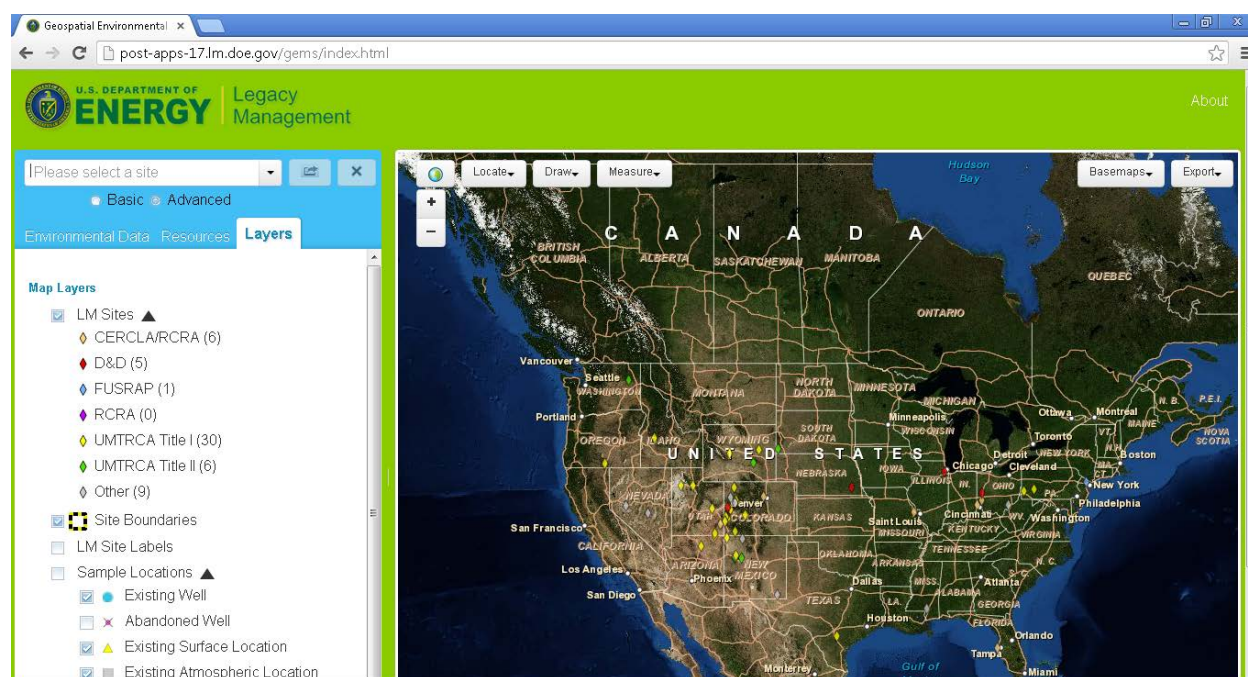
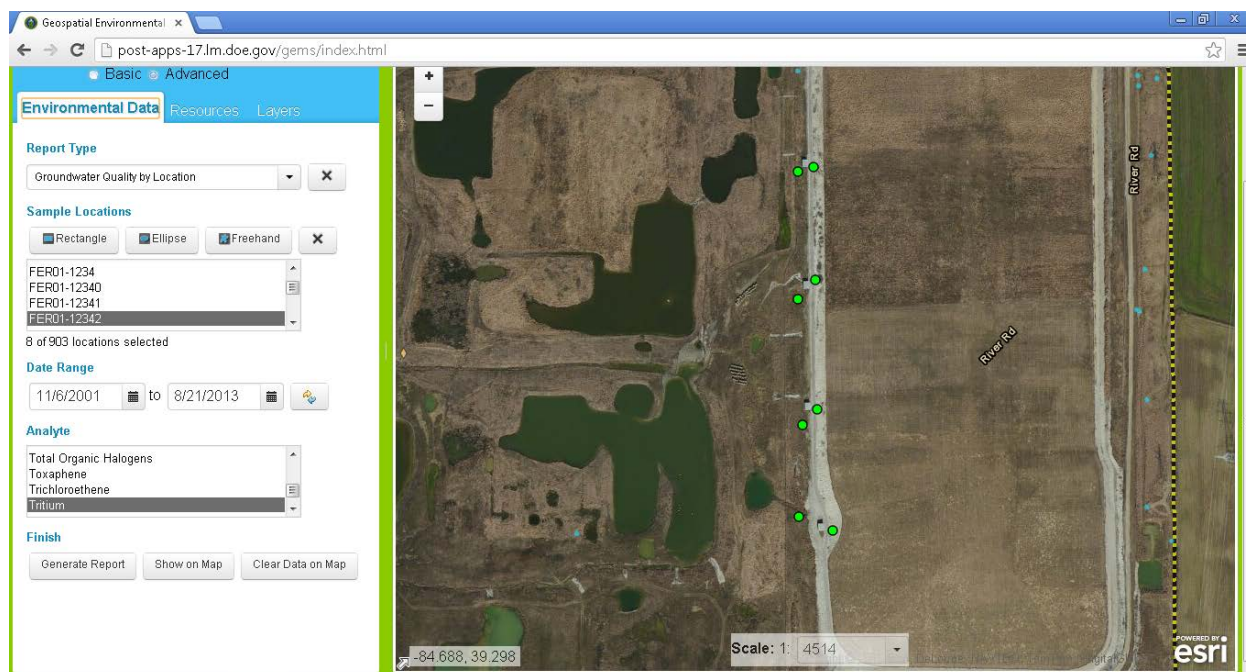
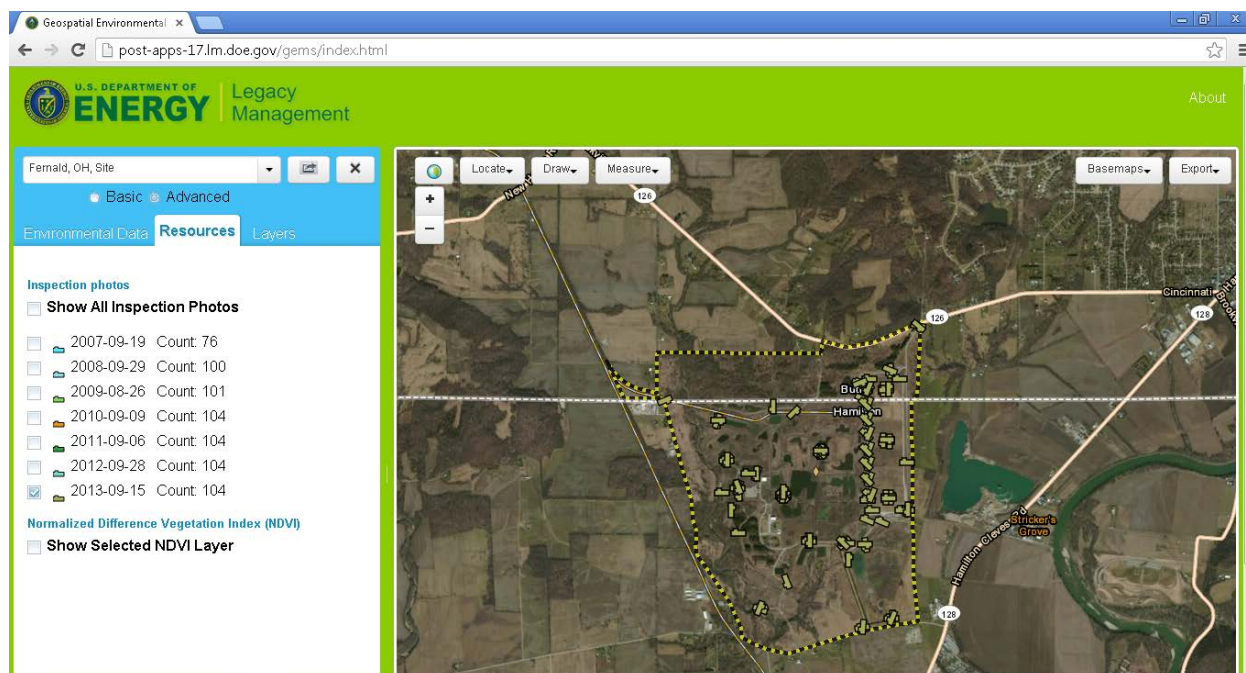

Fig. 1. Screenshot of the GEMS interactive map displaying all LM sites.
Fig. 2. Screenshot of the GEMS Environmental Data tab.
Fig. 3. Screenshot of the GEMS Resources tab.
GEMS draws validated information from a database of 4.7 million analytical results and 232,000 water level measurements for 58 LTS&M sites. With the Advanced option selected, users are allowed to query a map (**Fig. 1**) by selecting an LM site from the drop-down menu. After selecting a site, users can query sample locations via the Environmental Data tab. Users have the option to either “draw” on the screen or, by selecting sample locations on the map, select specific criteria. Data are displayed on the map through a data table, a geospatial map display, a tabular report, a graph, and a map view (**Fig. 2**). In addition, users can view site photos by clicking on the camera icon. Clicking icons at sample location points will bring up information such as well logs, attributes of the location, and environmental sampling data (**Fig. 3**).
- Query from the LM Environmental Database (**Fig. 2, Fig. 10**). Users can: